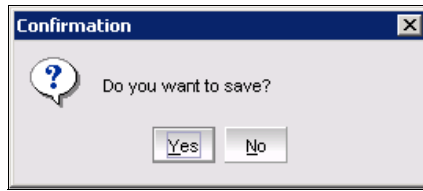

Figure 11-17 Save Route Confirmation dialog box
4. At the Confirmation dialog box (Figure 11-17), click **Yes** to save.